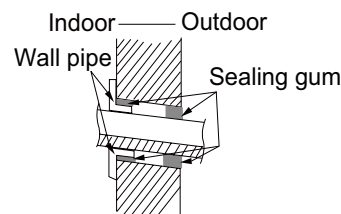

Fig.14
- (1) Put the bound pipes in the wall pipe and then make them pass through the wall hole.
- (2) Hang the indoor unit on the wall-mounting frame.
- (3) Stuff the gap between pipes and wall hole with sealing gum.
- (4) Fix the wall pipe.(As show in Fig.14)